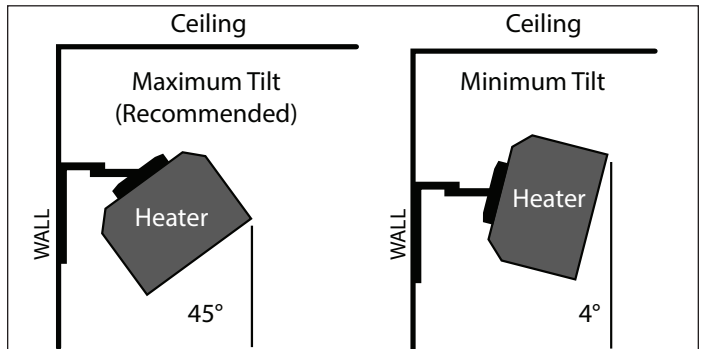

Figure 3 - Mounting Angles (Min and Max)
- Heater bracket will allow the heater mounting angle to be adjusted from approximately 4° - 45° from vertical. The optimum angle is 45° - see Fig. 3